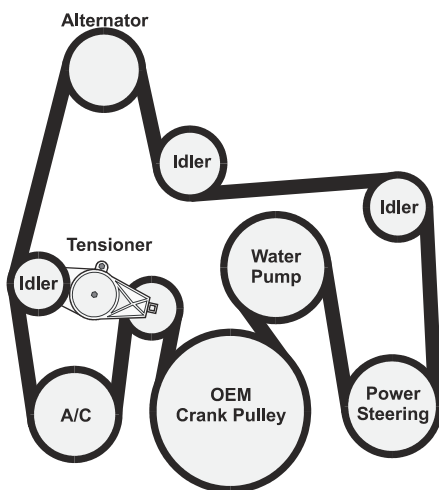

Figure 2.7
- ☐ Install the OEM belt tensioner onto the location on the VR bracket and install the OEM belt (Figure 2.7).